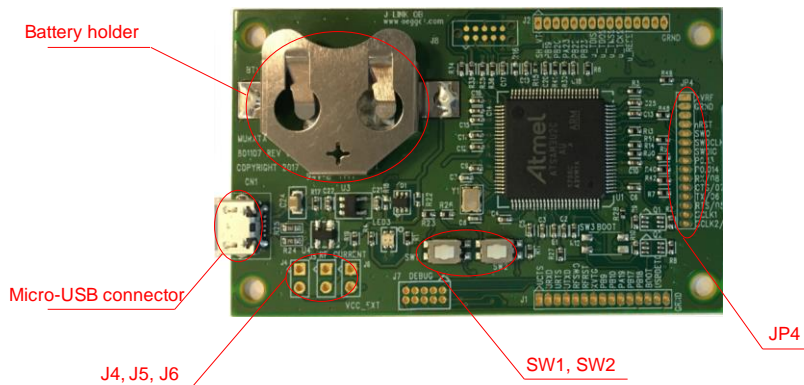

**Figure 2 MBN52832 Development Kit Evaluation Board**
The MBN52832Development Kit (MBN52832DK) supports the evaluation and development of smart IoT wireless networking products using BLE and NFC. It consists of an evaluation board (EVB), a quick start guide and this user guide. The EVB consists of two parts, the Interface Module (IM) and the Breakaway Module (BM), as shown in Figure 2. IM provides a dual USB-SWD and USB-UART interface to support firmware download and application software debugging and development; BM contains a MBN52832 module preconfigured with an onboard 2.4GHz antenna, LEDs, 32 KHz sleep clock and a NFC antenna. There is also an u.FL connector for RF evaluation. The BM can be separated from the IM and used as a standalone carrier board of MBN52832for product prototyping.